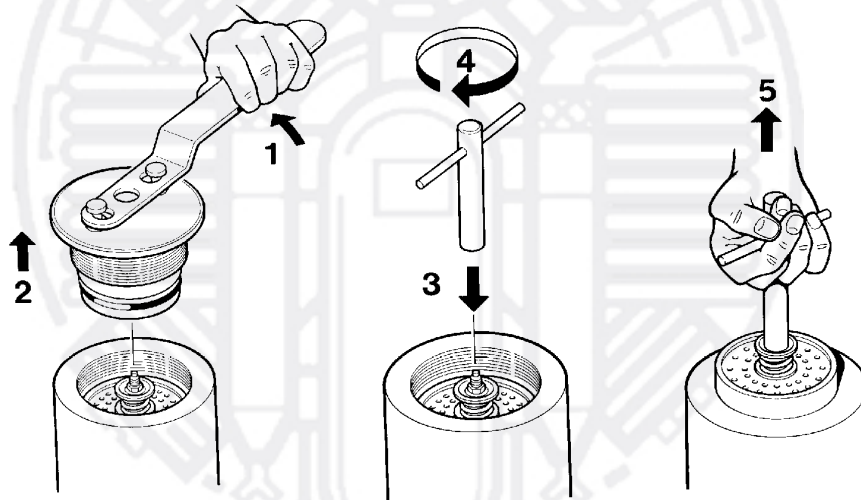

Fig. 30 Cartridge change
- Remove filter head with special spanner supplied with the unit (1, 2, Fig. 30).
- Screw cartridge removal tool supplied with the unit (3, 4) onto cartridge and pull out cartridge (5).